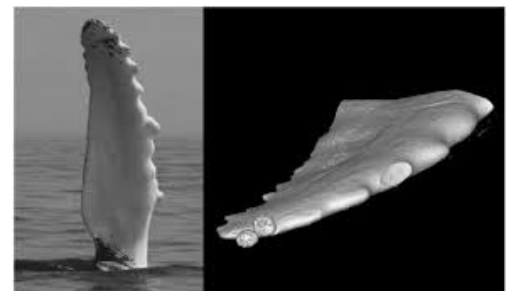

Figure 1 – humpback whale flipper profile (16)
Professor Frank E. Fish from the University of West Chester is a scientist who, when observing a sculpture of a humpback whale, noticed sinusoidally arranged bumps on the leading sides of its fins triggering the idea of a whole new design for wing-like structures (4). The humpback whale (*Megaptera novaeangliae*) has the longest flippers of any cetacean with lengths varying from 0.25-0.33 of their total body length. The flippers have unique bumps called tubercles as seen in Figure 1 which benefit the species greatly for performing loops underwater and particularly when it comes to feeding. A humpback whale will tend to create columns of bubbles underwater using its blowhole whilst swimming in a circular motion allowing the prey (most commonly Antarctic krill and schooling fish) to congregate, before